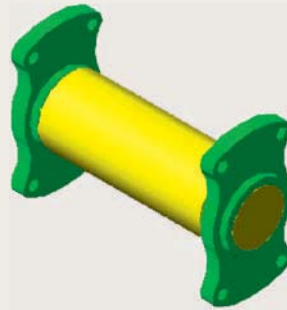
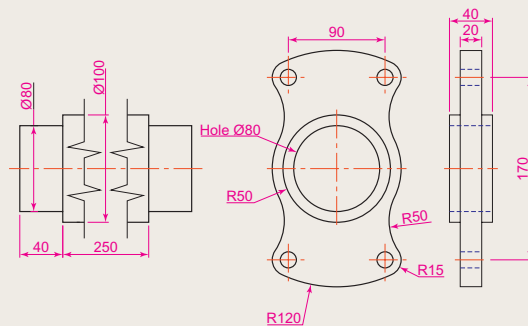

Fig. 10.27 Exercise 2 – a rendering of the holders and roller
Fig. 10.28 Exercise 2 – details of the parts of the holders and roller
2. Fig. 10.27 is a rendering of a roller between two end holders. Fig. 10.28 gives details the end holders and the roller in orthographic projections.